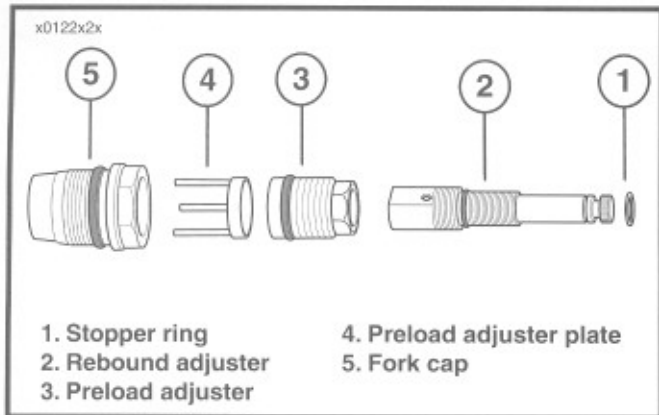

Figure 2-62.
1. See Figure 2-62. Remove the stopper ring (1).